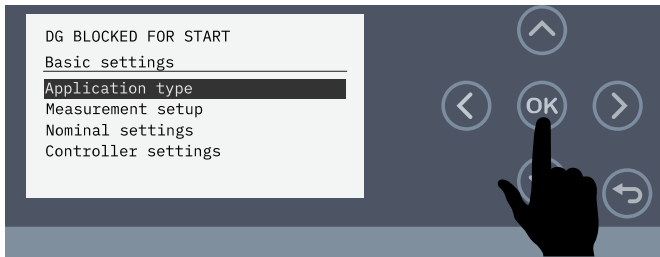

Figure 107. Select Application Type
4. Make sure **Application Type** is highlighted (Figure 107), then press the OK button.